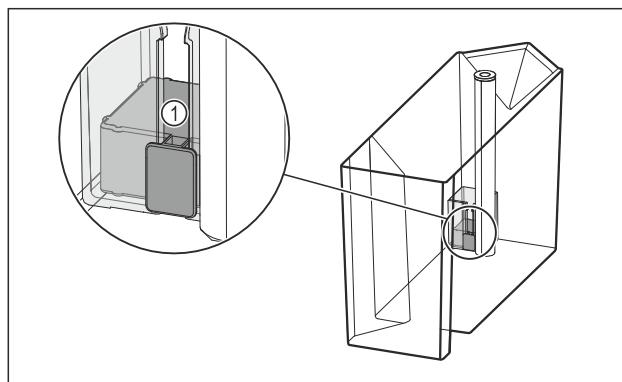

Fig. 98
- Check whether the float Fig. 98 (1) is jammed. If the float is jammed: